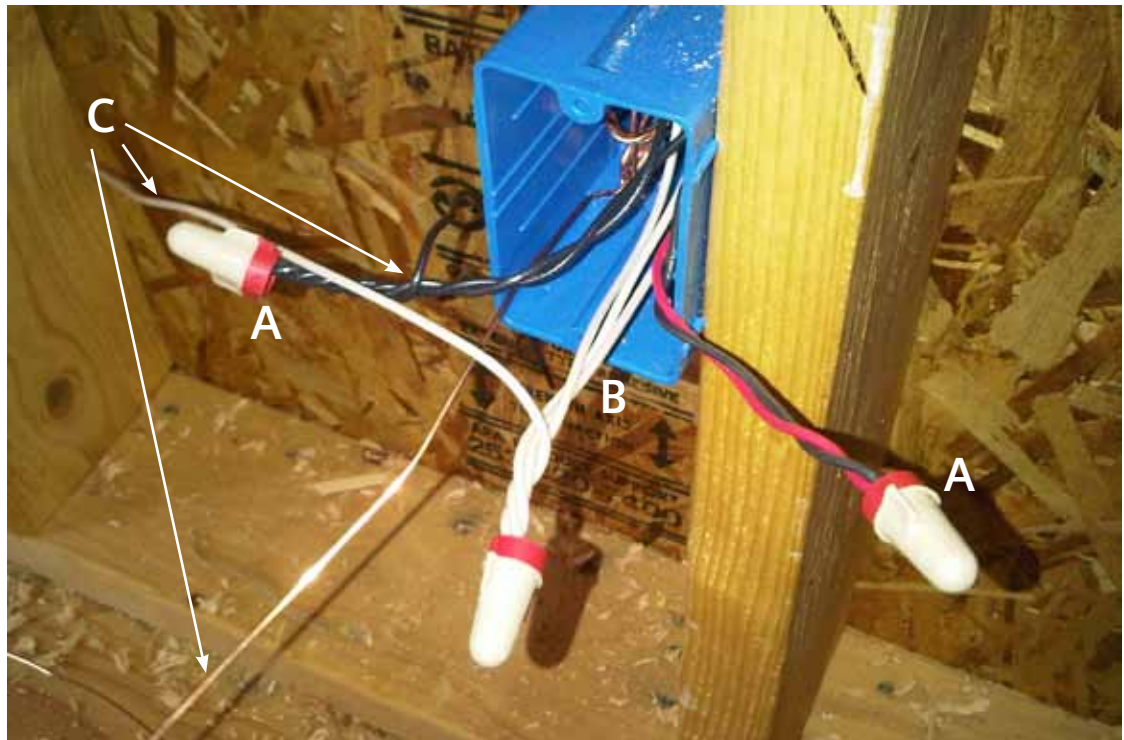

Figure 1: Multi-wire branch circuit junction box with load connections accessible
the neutral conductor to the neutral connection. Again, the neutral "pig tail" connects to the grounding bar, and can be cut to length. In this scenario, the junction box referred to above is where the two branches of the multi-wire circuit split. From this junction, each phase is wired with two conductor cable (A), with the neutral return path of each phase joined together in the junction box described above (B). If the junction box used for this homerun connection is also used for a load (switch, receptacle, etc.), the necessary taps should be left accessible (C) as shown in Figure 1.